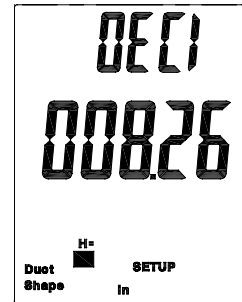

Fig. 6
6. Press **Avg/Rec** button to save the new settings into memory. The height of duct numbers and "H=" will now appear on the display (Fig. 6).